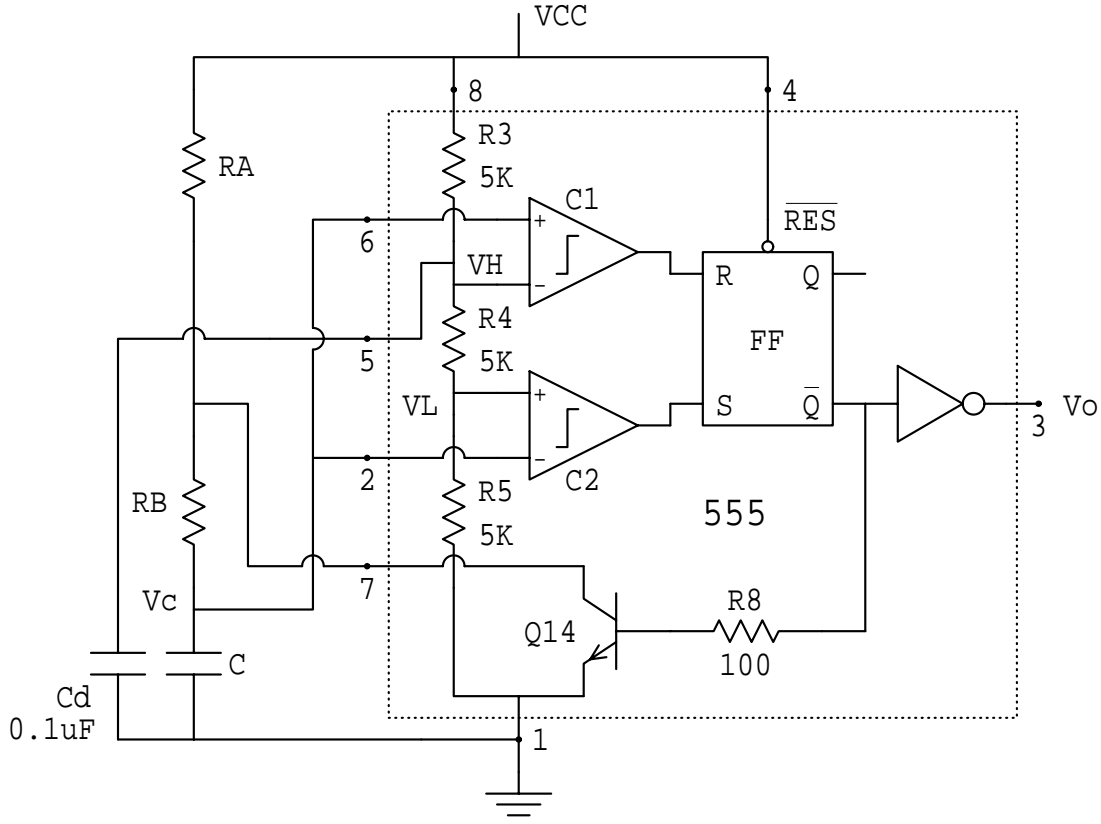
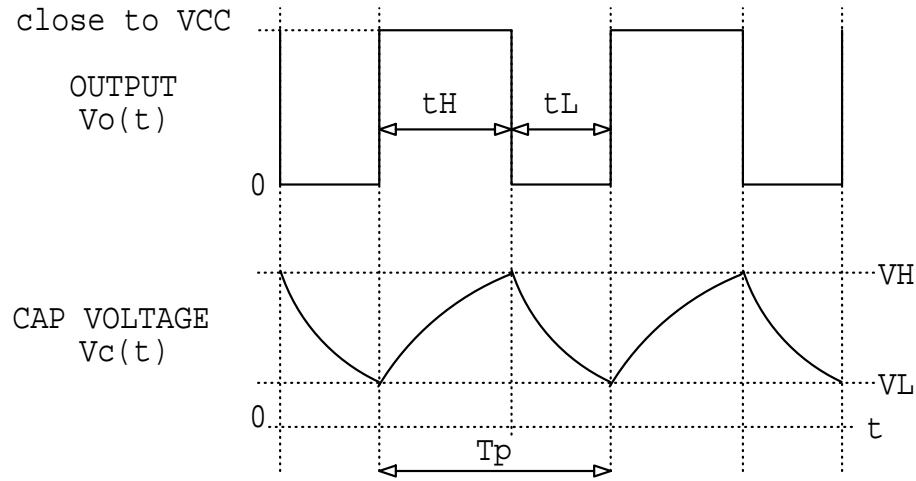

Figure 5: Astable circuit (pulse generator) built around the 555 timer.
Figure 6: Typical waveforms in the astable circuit with the 555 timer.
With the addition of an external capacitor and two external resistors, the 555 can be configured to produce a periodic pulsating waveform at the output, without any external trigger pulses. The basic configuration for the astable operation is shown in Fig. 5, together with typical steady-state waveforms in Fig. 6.
Design the astable circuit of Fig. 5 to produce periodic output pulses with frequency $f_p = 40\text{kHz}$ ($\pm 2\%$), and with the width of the LOW output that satisfies $0.5\mu\text{s} < t_L < 1\mu\text{s}$.
4. Design the astable circuit of Fig. 5 to produce periodic output pulses with frequency f_p , and with the width of the LOW output $t_L = 0.75\mu\text{s}$, as specified in Section 3.2. Show a complete circuit diagram with labeled component names and values. Do a PSpice transient simulation to verify the design and attach the simulation results (one page of waveforms). This is a paper design for the experimental task described in Section 3.2.